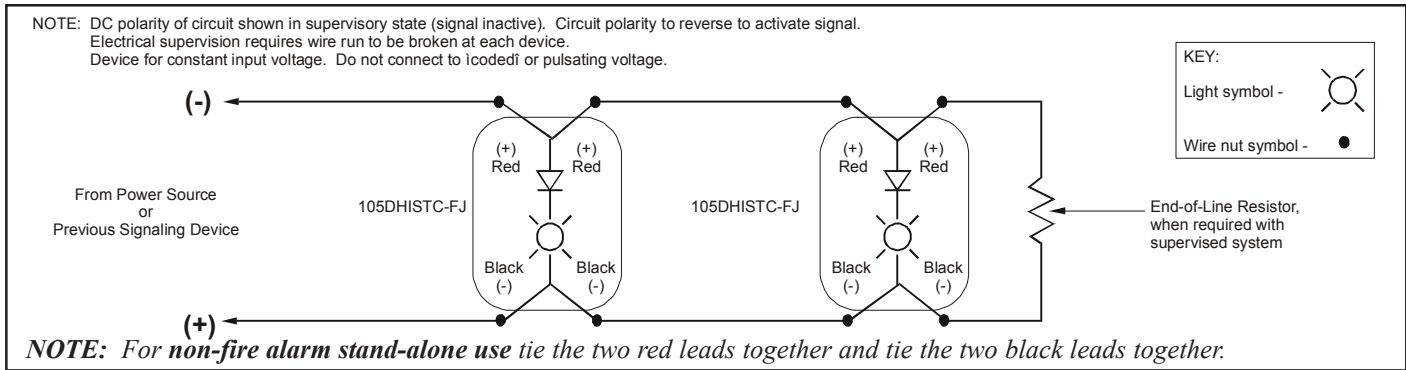

Figure 4. Wiring Diagram for the 105DHIST-FJ Series
4. Attach the unit's wire leads to the field wiring as shown in Figure 4.